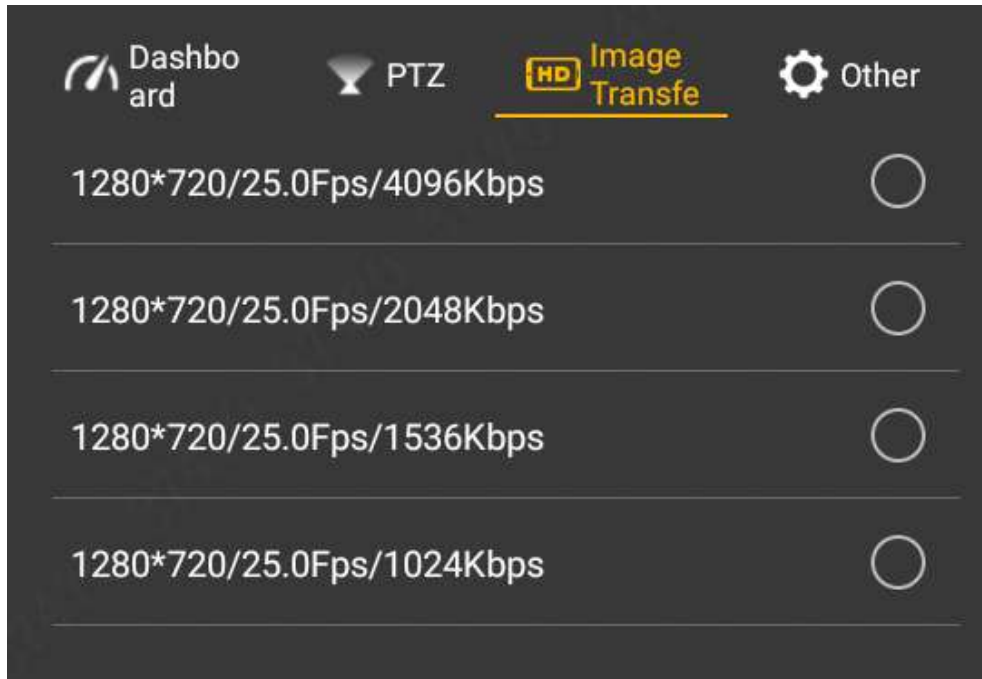

Figure 0-23
Step 1 Select “Image Transfer”, and the system enters “Image Transfer” interface, as shown in Figure 0-23.